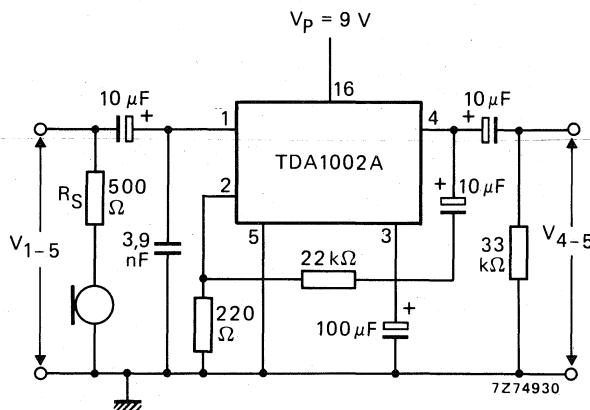

Fig. 3 Preamplifier used as microphone amplifier.
1. For recording see Fig. 3; for playback see Fig. 5.